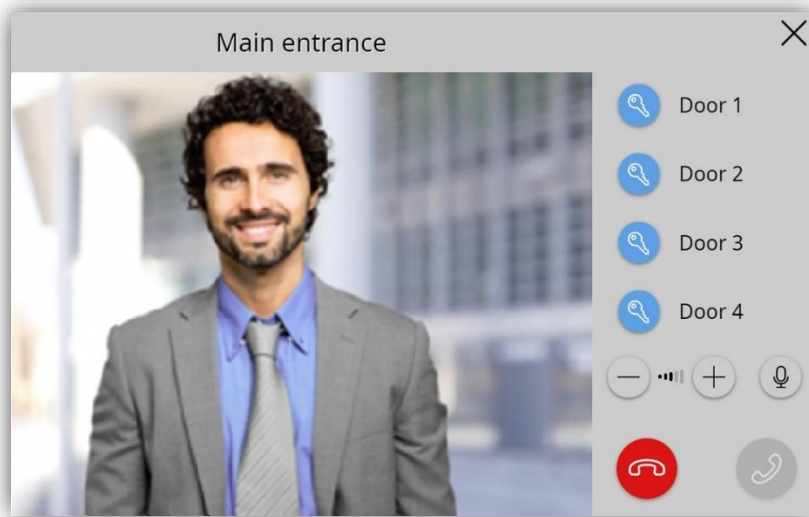

Figure 100. Ongoing call
- **Accept Call:** opens the ongoing call dialog (Figure 100) and notifies others synchronized screens in the same network that the call has been accepted:
When accepting the incoming call, Z70 v2 shows the interface in Figure 100 and starts the voice communication with the GetFace IP.